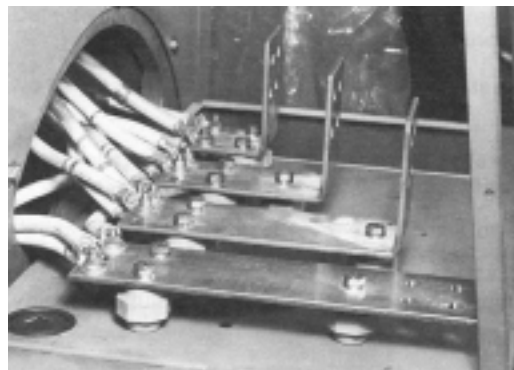

Figure 6-78
2. On generators with bus bar assemblies, reassemble main stator leads and insulating blocks to bus bars. (Figure 6-78.)